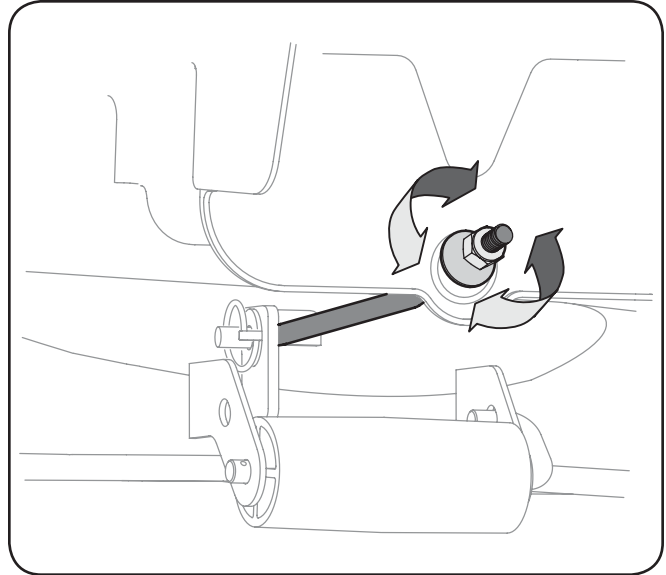

Figure 6-4
1. Locate the flange lock nut on the end of the deck hanger rod. See Fig. 6-4.
3. To *lower* the front of the deck, loosen (thread outward) the hex nut, away from the front hanger bracket. See Fig. 6-4.